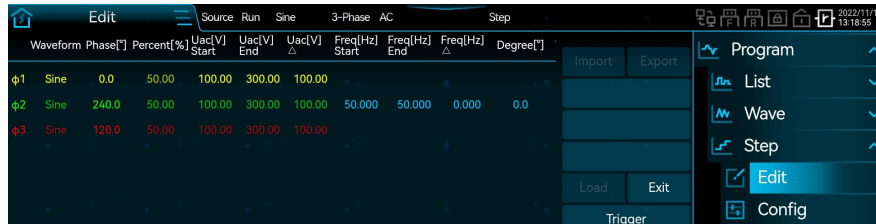

Figure 80 Step programming example diagram 2
- 3) Click 'Load' in the lower right corner. At this point, both 'Exit' and 'Trigger' are highlighted; see Figure 80.